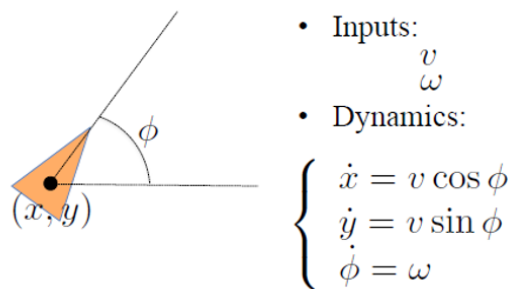

Figure 3: Unicycle robot dynamic model
3. The center of gravity for each run is also shown in Figure 3. The distribution of the readings within each quadrant is a result of nonsystematic errors. The asymmetry in the centers of gravity between the cw and ccw runs is due to two types of systematic errors. Type A errors are due to an increase or decrease in robot rotation for both cw and ccw runs. Type B errors are due to an increase or decrease in robot rotation for the cw run and the opposite effect happens for the ccw run. Type A errors occur because of uncertainty in the wheelbase measurement while Type B errors because of unequal wheel diameters. A single numeric value that expresses the odometric accuracy for systematic errors can be found from
4. The radius, r, for each center of gravity is also shown on the Figure 3. Find the radii for your data.